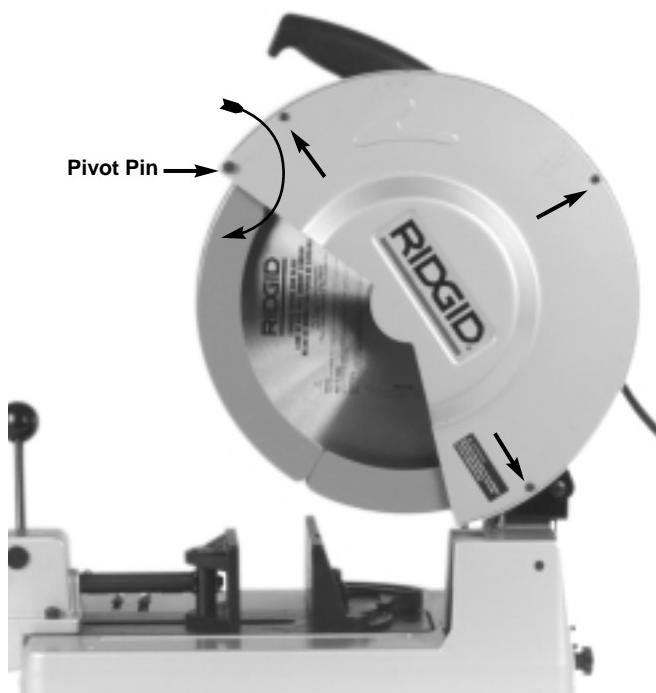

Figure 7 – Removing Cover
2. Loosen the three (3) screws on the safety cover then rotate it clockwise around pivot pin to expose the arbor shaft (*Figure 7*).